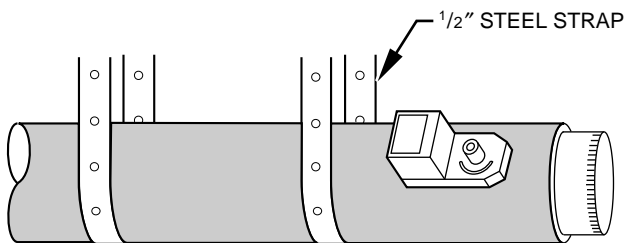

Fig. 2—Insulated Round Metal Duct Work
2. Slip end of zone damper over end of duct work. Use self-tapping sheet metal screw to secure. (See Fig. 2.)